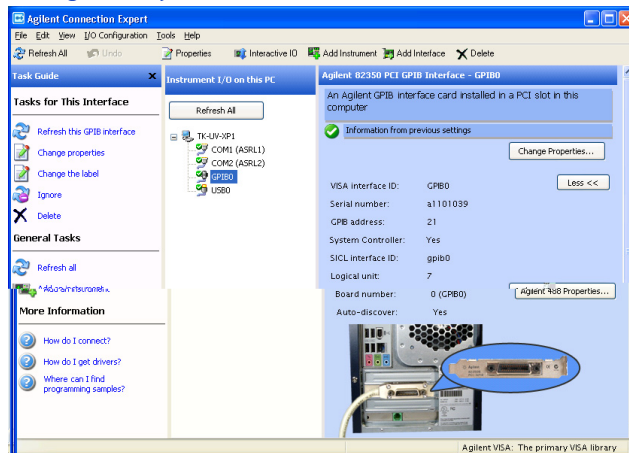

Figure 37 Agilent 82350 default settings.
- 7 In the Agilent Connection Expert main window select **GPIB0** (see Figure 37).